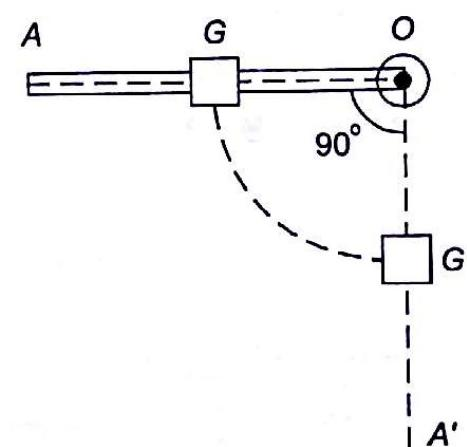

Fig. 19.20
19.6 A slender rod OA, hinged at O, of length 1 m is of mass 4 kg and a collar of mass 2 kg is attached to the centre of the rod. Horizontal position shown is at rest. Rod is released and reaches vertical position (Fig. 19.20)?